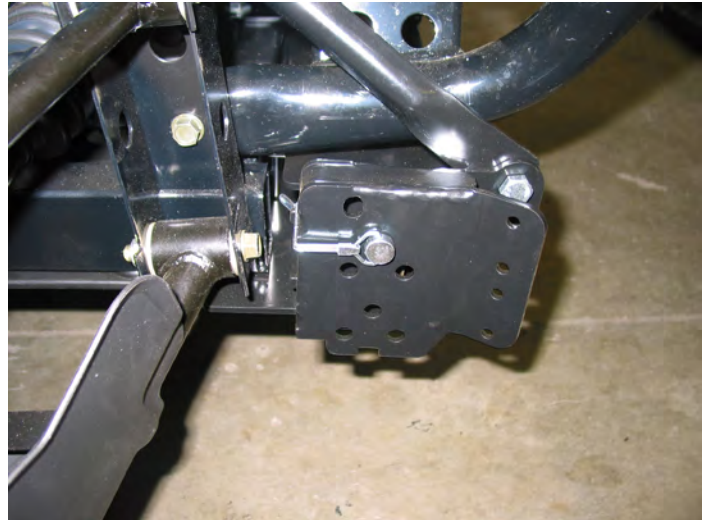

Figure 17
13. Figure 17 shows the locating pin and the position of the bail latch.